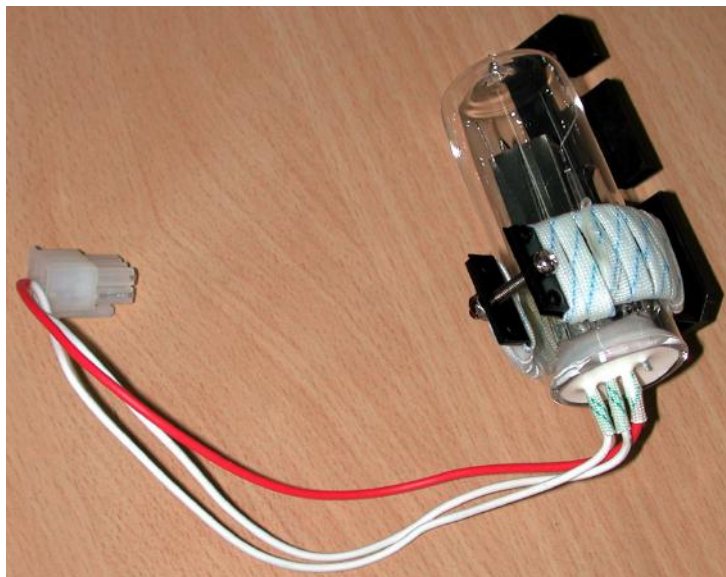

Fig A6
7. Replace the pre-aligned lamp with a lamp (Fig A6) provided by UNICO or an authorized UNICO Service Provider. This comes pre-assembled with lamp socket.